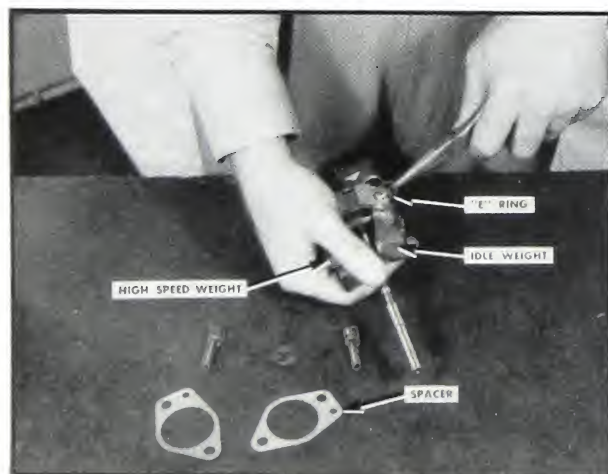

Fig. 5-211. Remove “E” rings
1. Remove the retaining “E” rings from the ends of the governor weight shaft. Remove the shafts, weights and spacer washers. Fig. 5-211.